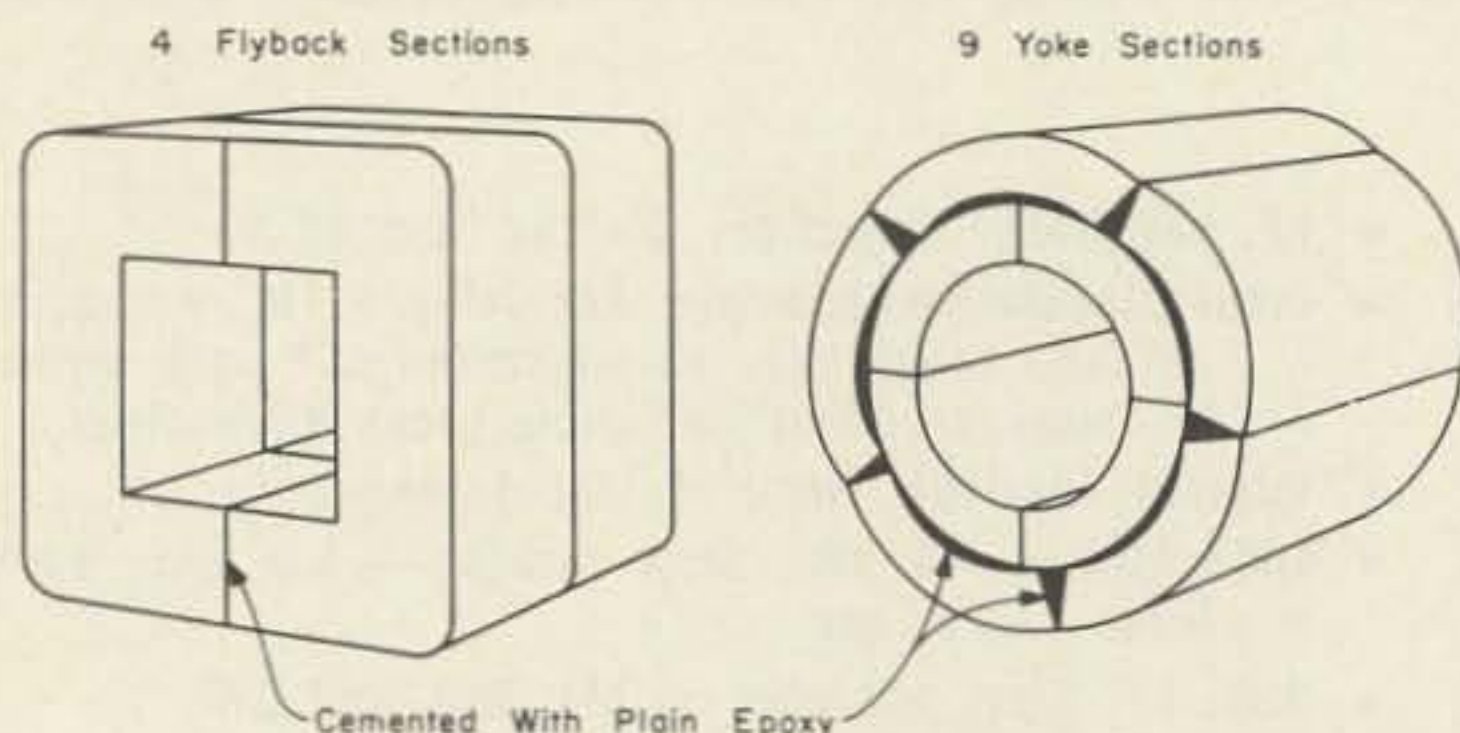

FIGURE 1
The circuit in Fig. 1 is modified version of the "Speak-Easy," and is similar to the AVC circuit in a receiver. Designed around a variable-mu tube, the 6BA6, it has a wide range of gain and can be driven directly by a microphone.
3. Sections can be stacked (see Fig. 1) for higher power.